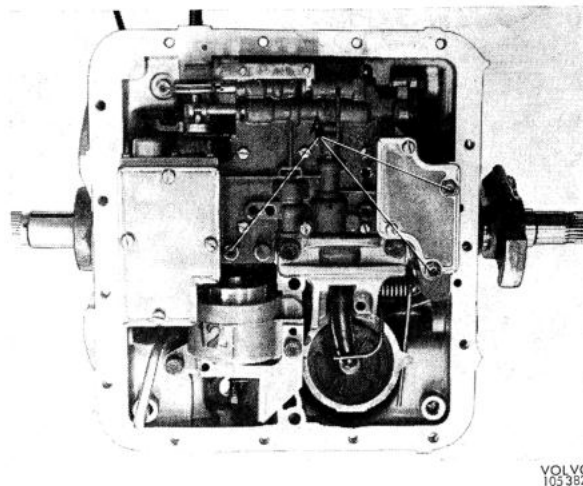

Fig. 4-79. Valve bodies assembly
4. Disconnect the downshift valve cable from the downshift valve cam. Unscrew the three screws which retain the valve bodies assembly to the gearbox housing, see Fig. 4-79. Lift the valve bodies assembly straight up so that it releases from the oil tubes at the front end.